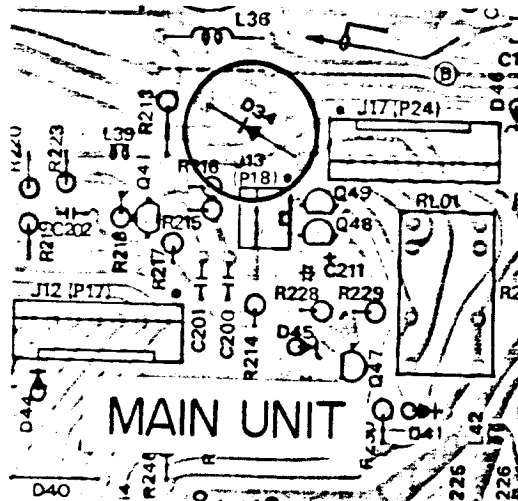

Figure 2-10
- 11) Unsolder the cathode of  $D_{1034}$  from the pattern, and pull the lead from the component side, as shown in Fig. 2-10.